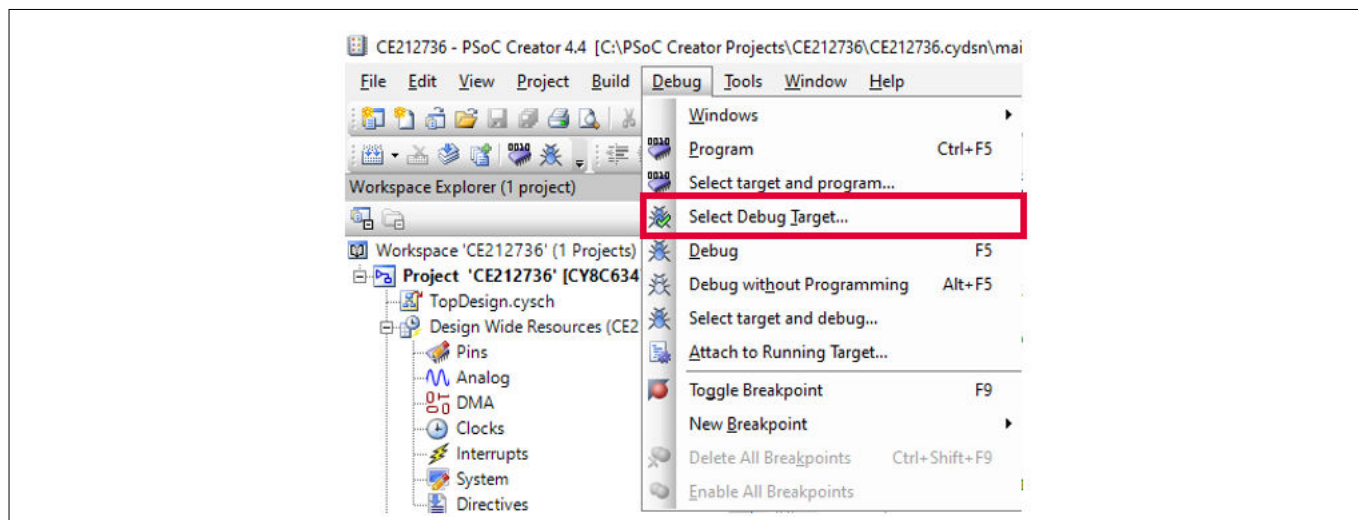

Figure 48 Selecting debug target
- In PSoC™ Creator, choose **Debug > Select Debug Target**, as Figure 48 shows